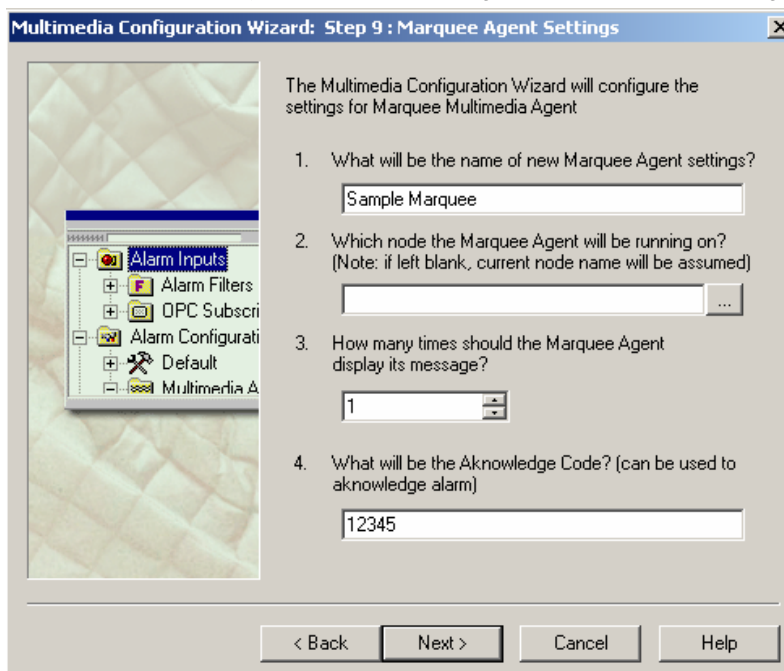

Figure 3.10. Step 9: Configuring the Settings for the Multimedia Agent
9. In Step 9, enter a name for the multimedia agent configuration, as shown in **Figure 3.10**. Also choose a node on which to run the agent. You can browse for the node by clicking the ... button to the right of the node name field. If you leave the node name field blank, the local node name will be assumed. The remaining items to be filled in vary from one agent to the next. The example in Figure 3.10 shows a sample configuration for the Marquee Agent. This configuration asks the marquee to repeat the alarm message once—play it twice (a repeat of zero means play once)—and accept any acknowledgement where a user entered "12345" as an acknowledgement code. If this were the configuration for the E-mail Agent, for example, there would be places to fill in the 'To:', 'CC:' and 'Subject' fields. Different agents call for different configurations.